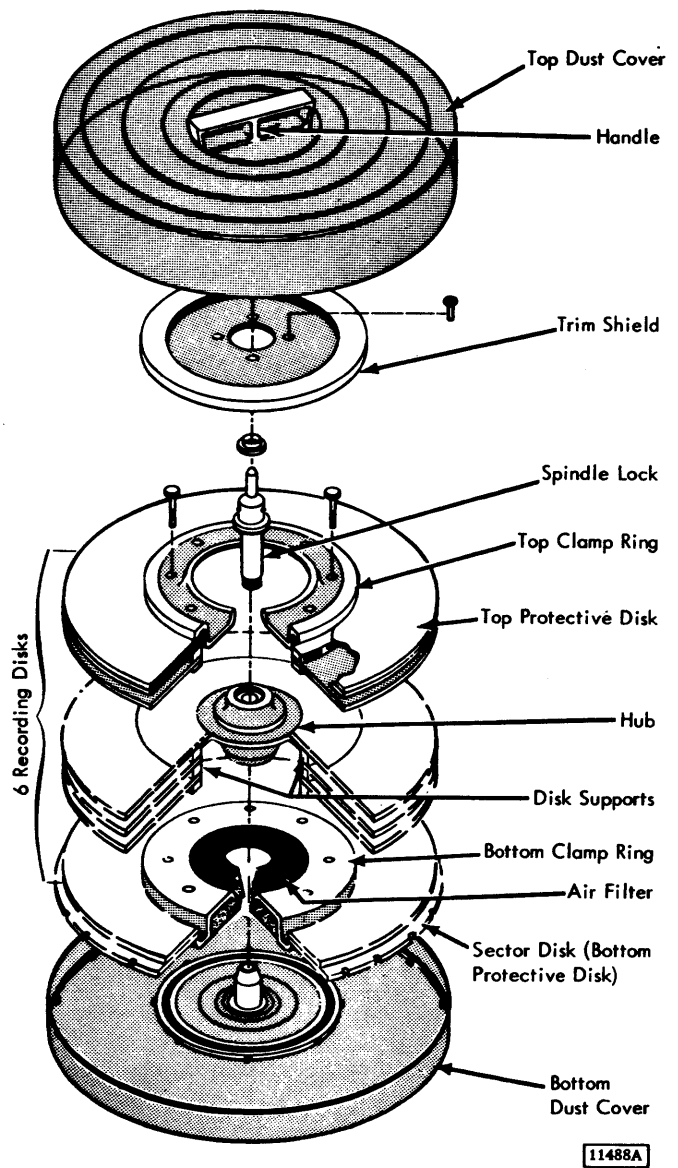

Figure 1-2. Disk Pack Assembly
- The major components of the disk pack are: the eight disks, hub, clamp rings, spindle-lock mechanism, bottom dust cover, and top dust cover with attached handle (Figure 1-2).
Figure 1-2 shows the six recording disks separated by five disk supports (spacers). The protective disks are separated from the top and bottom recording disks